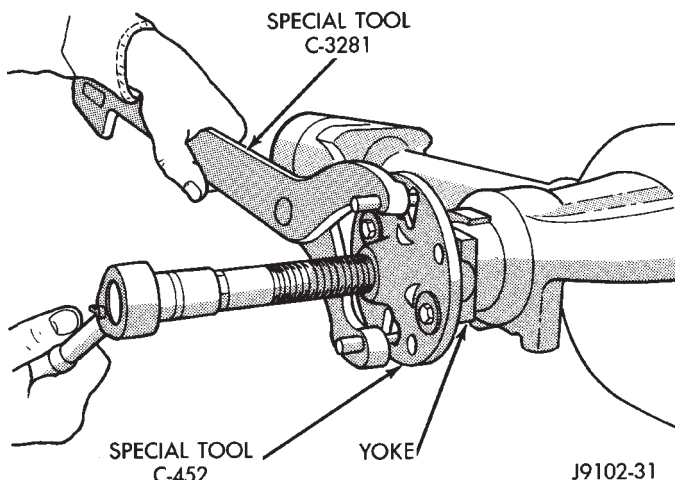

Fig. 37 Pinion Yoke Removal
(5) Using Remover C-452 and Wrench C-3281, remove the pinion yoke from pinion shaft (Fig. 37).